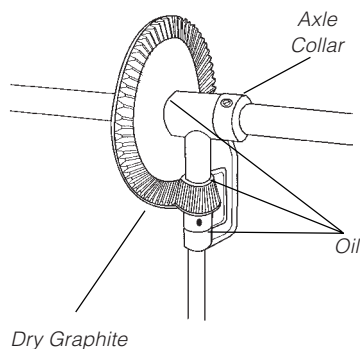

Figure 14
- c. Spin the drive wheel to make sure the gears run freely and smoothly. See Figure 14.